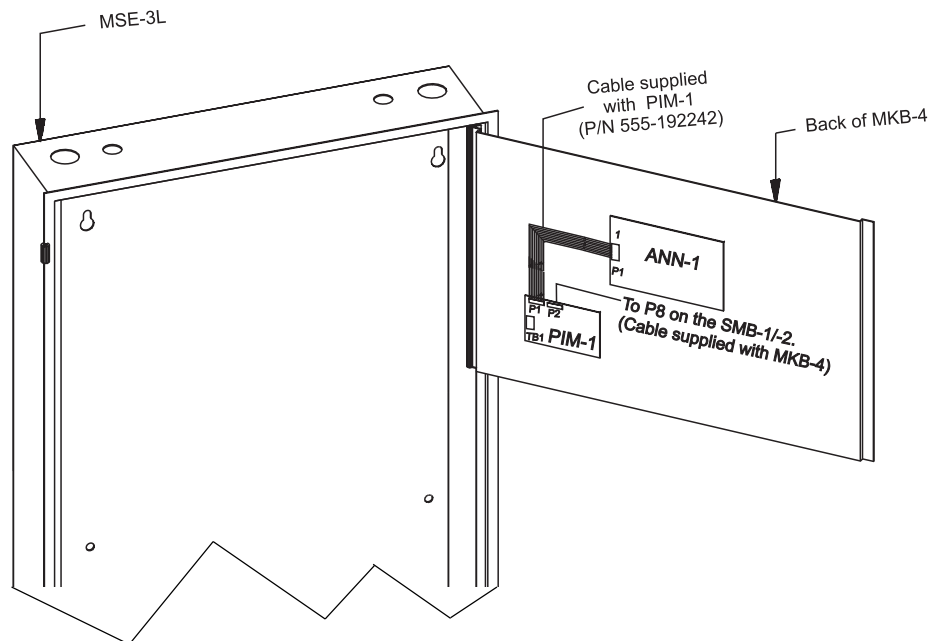

Figure 4
For an MXL-IQ System: (See Figure 4)
- a. Install the PIM-1 on the back of the MKB-4 panel as shown in Figure 4. Position the PIM-1 so that TB1 is on the left side of the board.